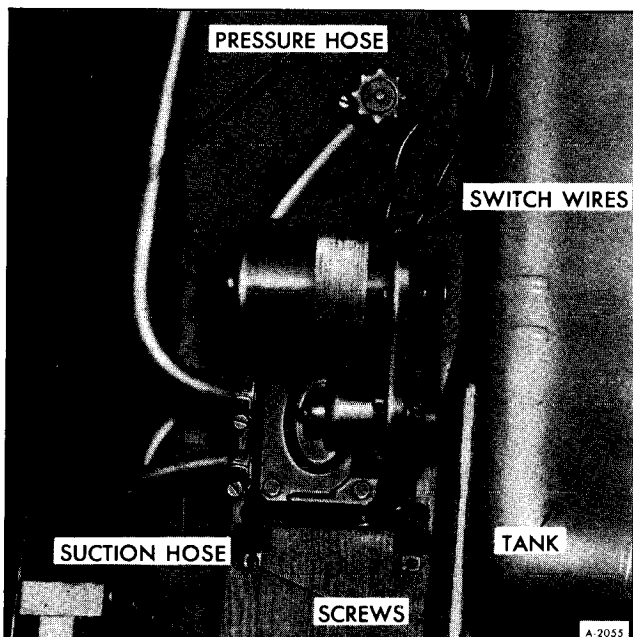

Figure 6-Water Pump
4. Disconnect hoses from water pump. See Figure 6.
6. Remove four (4) pump hold down screws. See Figure 6.
2. Remove four (4) screws securing pump assembly (See figure 6).
4. Remove switch cover and two (2) screws attaching switch to pump.